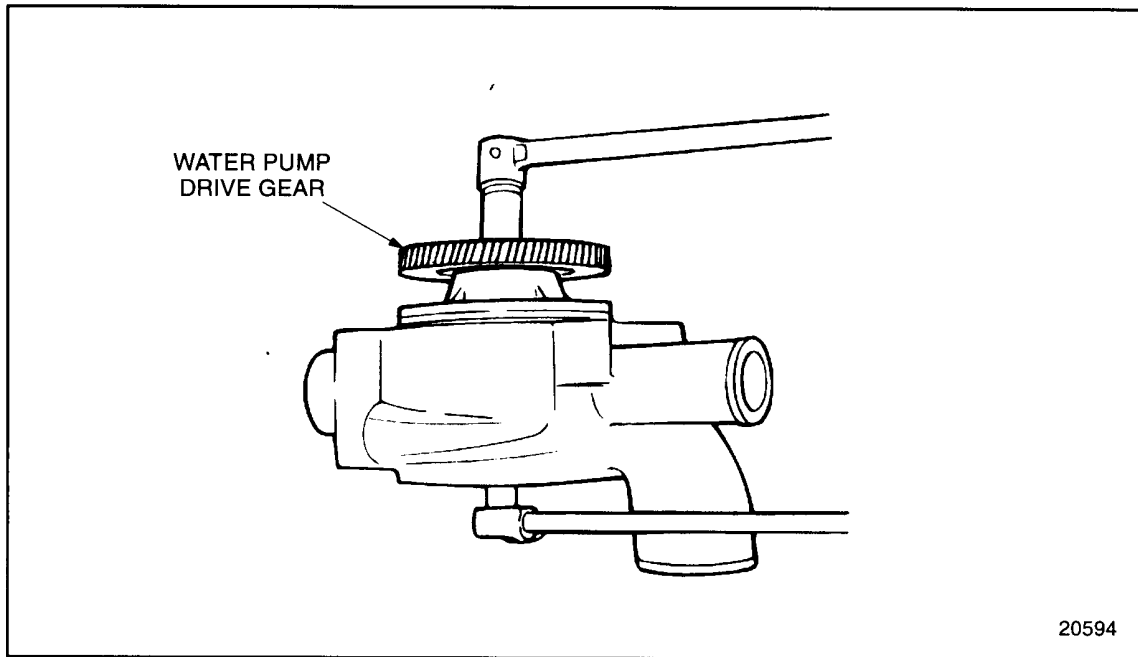

Figure 4-8 **Water Pump Drive Gear Retaining Bolt Removal**
3. Hold square end of water pump shaft and remove water pump drive gear retaining bolt and washer. See Figure 4-8.